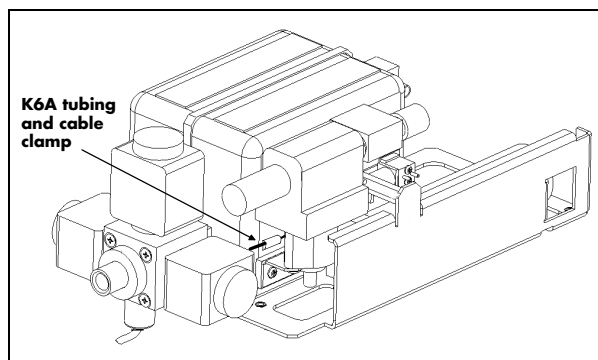

FIGURE 2-22 Cable Clamp Location
1. Remove the four (4) blue washers from the reservoir bracket and place them in the same holes on the new, replacement reservoir bracket (if applicable).
4. Re-install two (2) of the four (4) shock mount screws into the blue washers at the insulator end (the insulator should be able to hold the screws in place).
5. Verify that the two (2) O-rings are in the pressure/vacuum ports of the Drive manifold. Re-install the Drive Assembly using the same four (4) screws (#8-32 x 2.00"), applying one small drop of Loctite #242 on the screw threads.
7. Re-install the 8 PSI regulator by reinserting the O-ring fitting into the mounting block (opposite the pressure relief valve) and reinstalling the two (2) screws (#10-32 x 0.31") into the regulator bracket, applying one small drop of Loctite #242 on the screw threads.
9. Place the black 1/8" tubing from the K6A solenoid into the cable clamp (P/N 0343-05-0001) shown in FIGURE 2-22. Route it back to the port on the Drive manifold and connect it. Verify that the two (2) shock mount screws are still inserted into the blue washers.
10. Re-mount the reservoir bracket to the assembly bracket by inserting the two (2) remaining shock mount screws into the blue washers and then tightening all four (4) screws. Verify that the K6A tubing is not pinched!